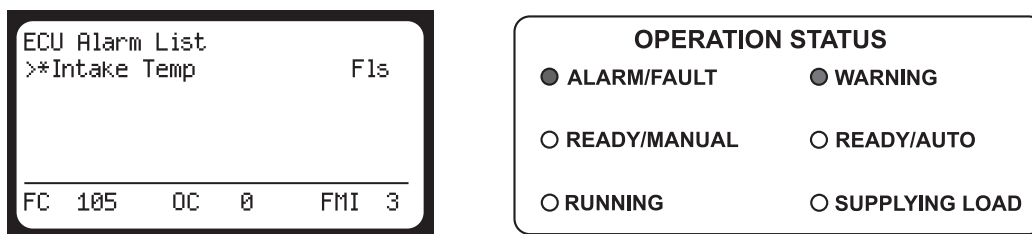

Figure 1
Press the "▲" Scroll Up button (on the diagnostic keypad) to view the "ECU Alarm List." This will allow the operator to view a description of the fault, along with the diagnostic trouble codes located at the bottom of the display (refer to Figure 1). To further identify a fault by using these codes, refer to the John Deere Operator's Manual supplied with
**\*Note:** The Suspect Parameter Number (SPN) is displayed as “FC” on the bottom left of the LCD window. Refer to Figure 1.